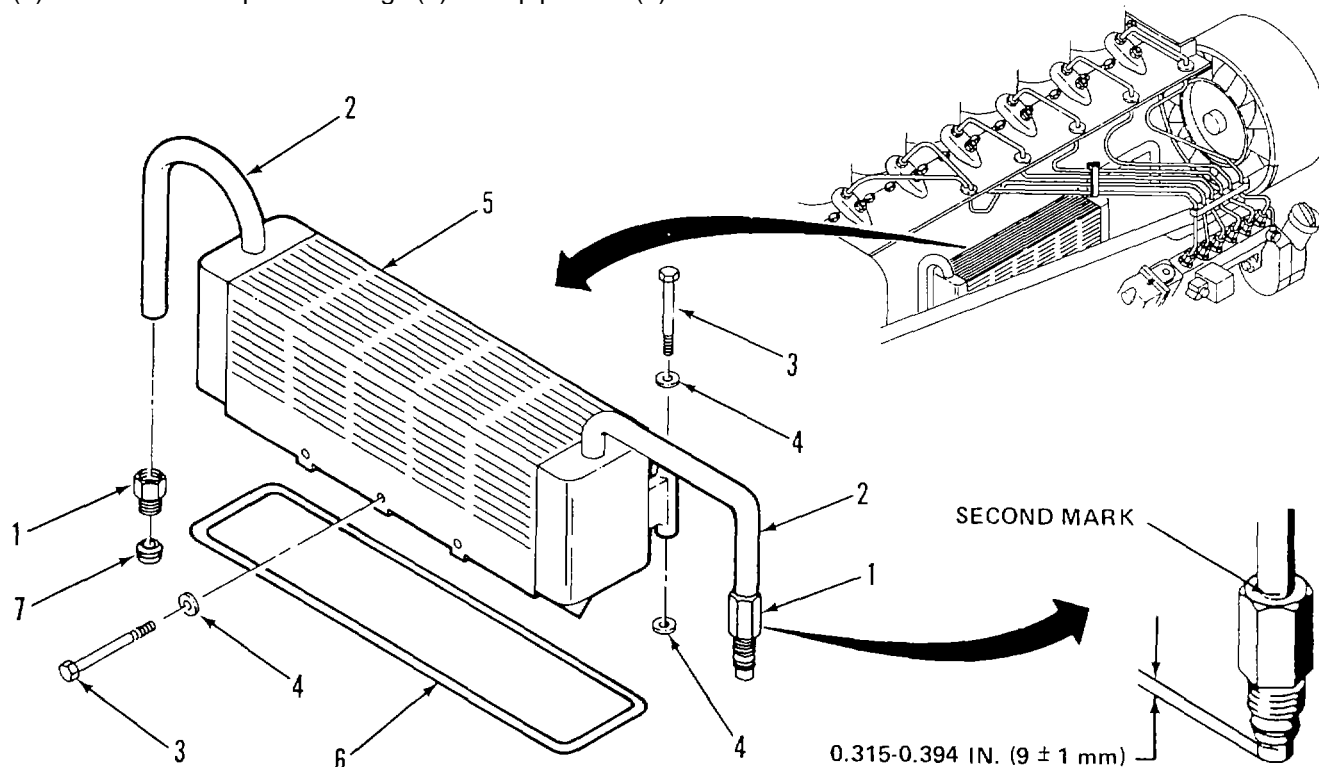

Figure 2-34. Oil Cooler
a. **REMOVE.** (Figure 2-34)
- (1) Unlatch and remove cowling cover from engine.
- (2) Loosen pipe nuts (1) at inlet and outlet lines (2).
- (3) Remove bolts (3), flat washers (4), oil cooler (5), and gasket (6).
- (4) Remove compression rings (7) from pipe nuts (1).